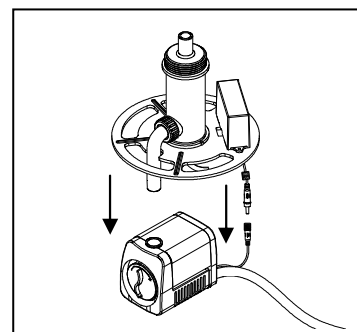

Fig. 11
7. Remove the pump, unscrew the wire connector that connects the UV light assembly to pump. Fig. 11